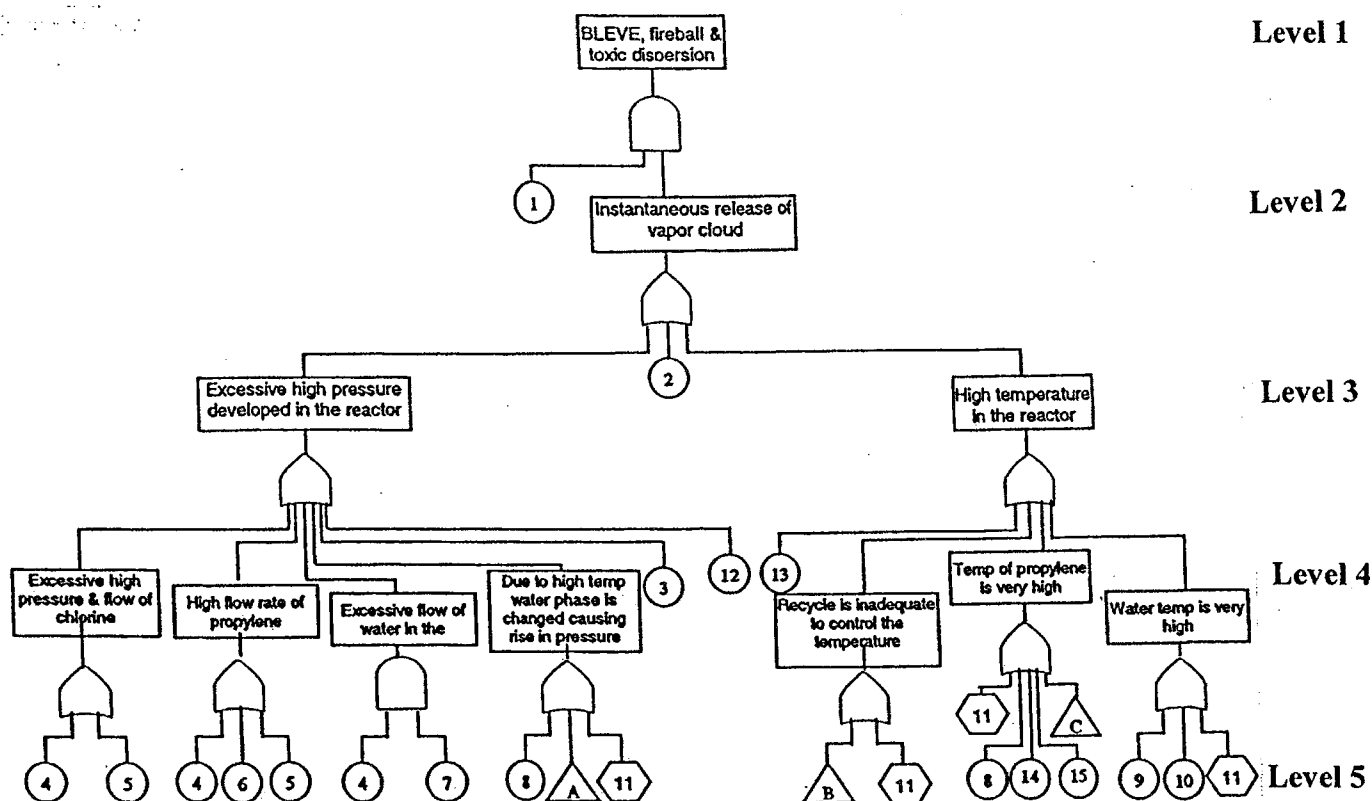

Figure Q. 6 Fault tree diagrams for an accident in chlorohydrin reactor
6. Figure Q.6 (Appendix C) shows Fault Tree Diagram for an accident from chlorohydrin reactor.